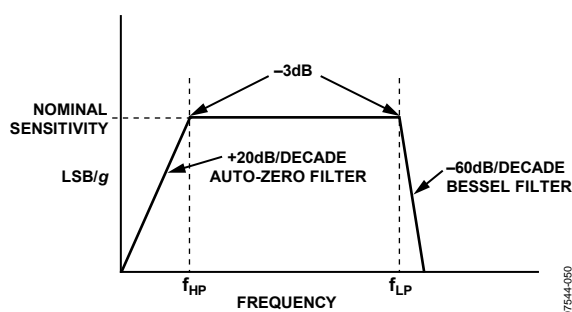

Figure 29. Bode Plot of ADXL180 Transfer Function
The three-pole, low-pass Bessel filter has a selectable -3 dB corner (f_{LP}). The corner can be set to 100 Hz, 200 Hz, 400 Hz, or 800 Hz by programming the filter corner (FC) bits in the configuration registers. In the pass band between f_{HP} and f_{LP} , the response of the ADXL180 is flat with the nominal scale factor defined by the settings of the range (RG) bits in the configuration registers (see Figure 29). The auto-zero function creates a first-order high-pass filter with a -3 dB corner at f_{LP} . Note that the output of this filter is slew rate limited. The auto-zero function can be disabled by setting the appropriate bit in the configuration registers. See the Specifications section for more information.